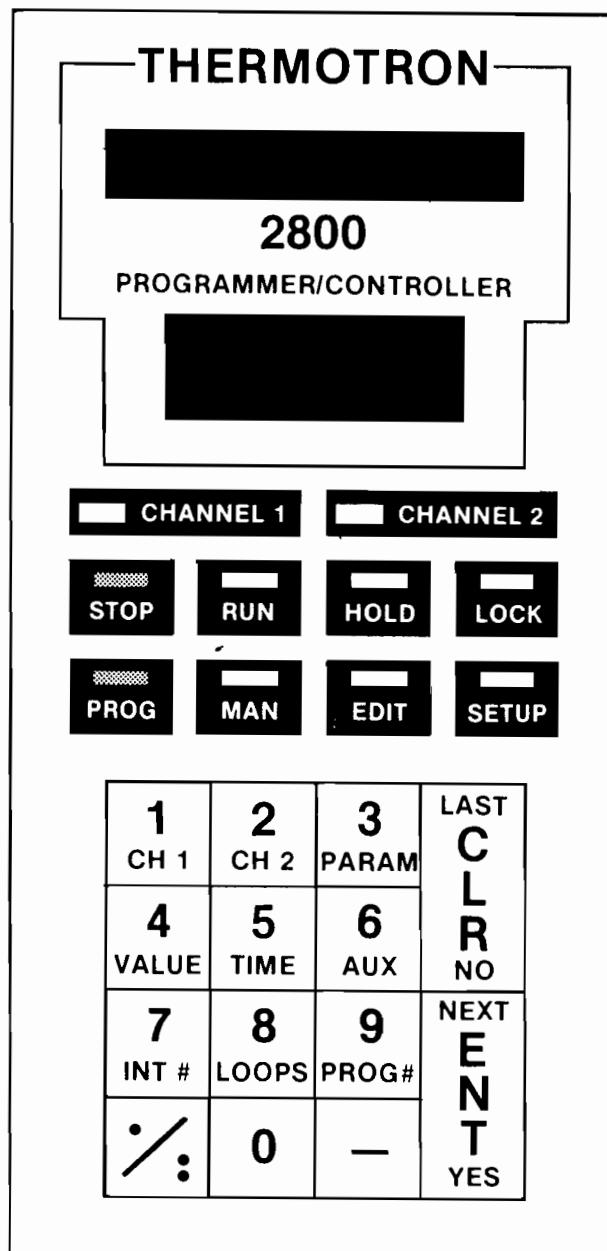

FIGURE 3
1. When the 2800 is in STOP, press the PROG key. See Figure 3. The 2800 selects the lowest available program number. The display shows PROG NMBR.